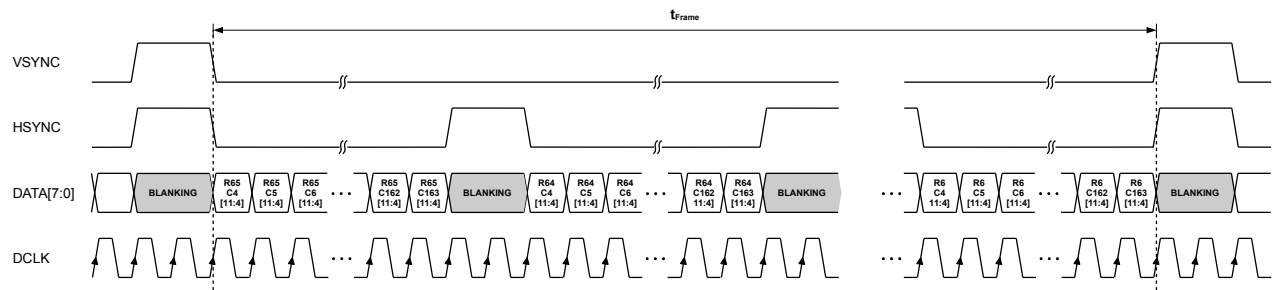

Figure 33: 8-bit mode
- **8-bit mode:** Transfers the 8 MSB bits of the pixel data with 1x DCLK. Refer to Table 16 and Figure 33.